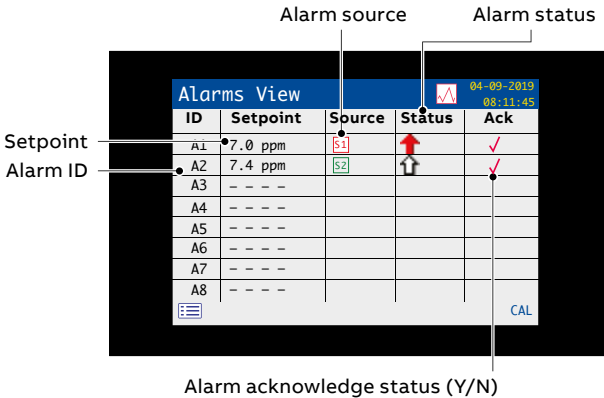

Figure 10 Alarms View
- **Alarms View** – displays a list of alarms, source and status – see Figure 10